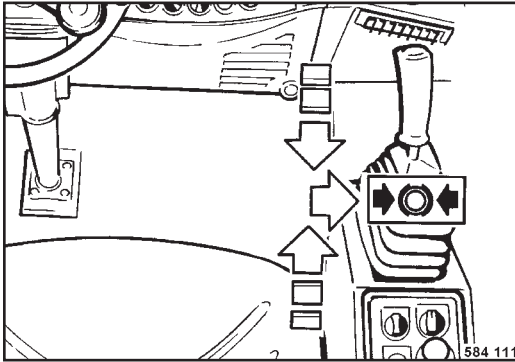

Fig. 53
- Return the travel lever (Fig. 53) slowly to "neutral"- position and engage it to the right in braking position.